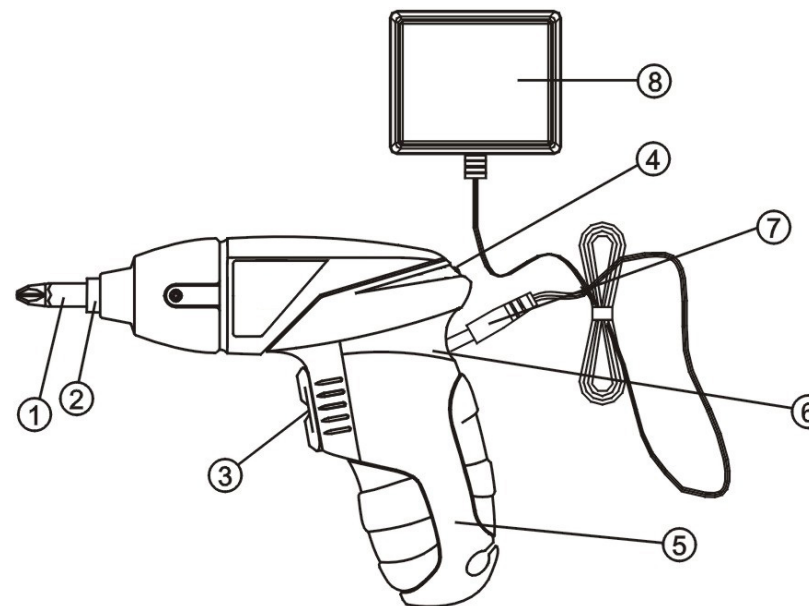

Fig1
2. Insert charger plug (7) into DC socket (6) at back of tool body (see Fig. 1).
3. Insert battery charger (8) into a 230Volt / 50 Hz wall receptacle.